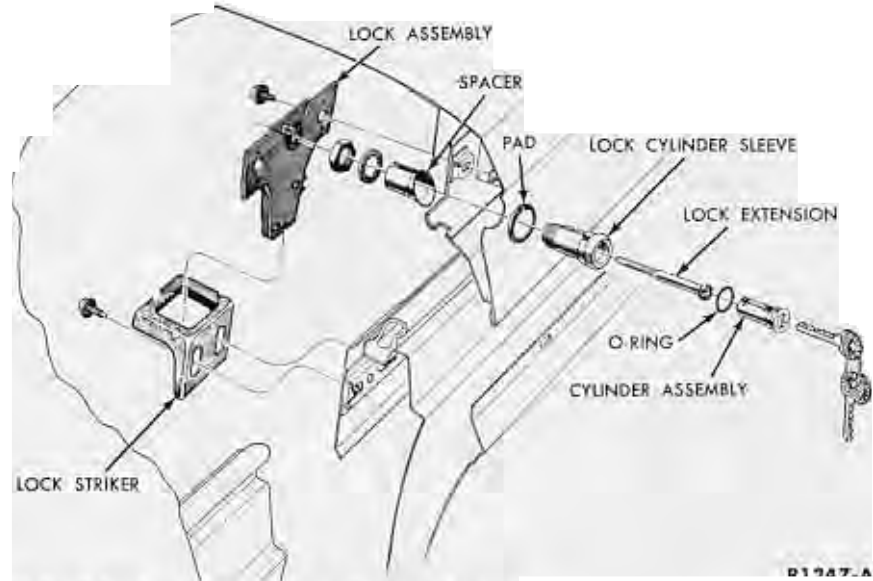

FIG. 31—Deck Lid Lock Installation—Typical
2. Remove the sleeve assembly retaining nut, lock washer, spacer, and sleeve and cylinder (Fig. 31).